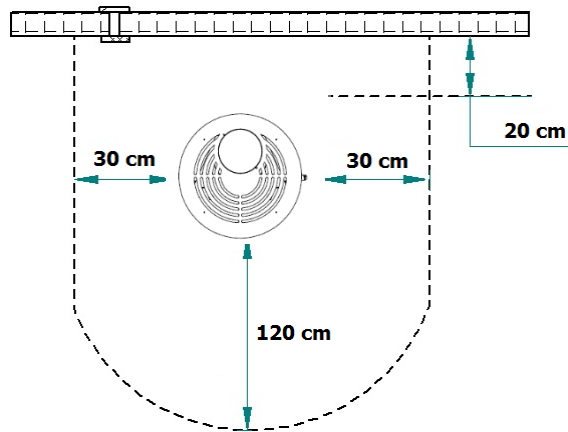

Figure 24 – Minimum safety distances
* Keep any combustible materials away from this appliance. For safety reasons, you should maintain a minimum clearance distance around the unit of 20 cm from the back, 30 cm from the sides and 120 cm from the front (Figure 24);